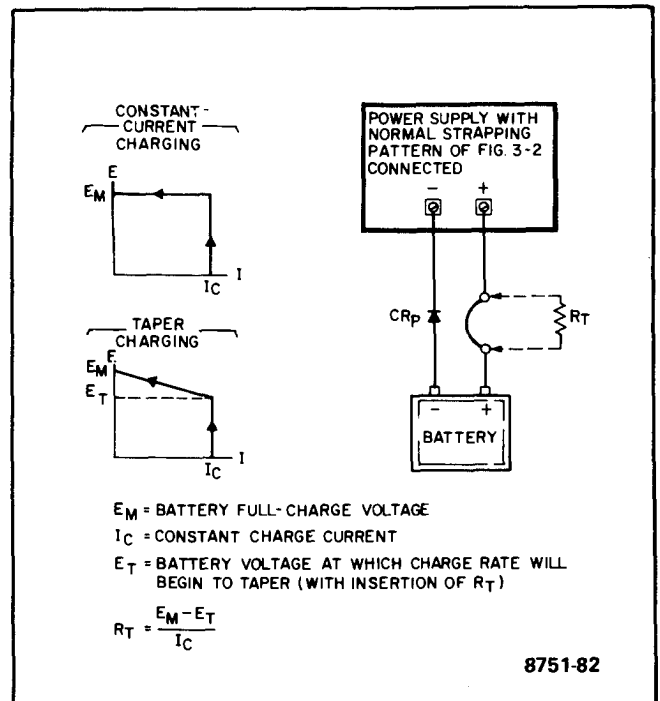

Figure 3-16. Battery Charging
*Any time these supplies are used to charge a battery, be sure to install a protective diode CRp in series with the battery as shown in Figure 3-16 to prevent the battery from discharging into the supply if the supply is turned off. Extensive damage to the supply could result if this diode were omitted.*
- b. Connect a short circuit across the output terminals and rotate the VOLTAGE control fully clockwise (CW).
- e. Adjust the VOLTAGE control for an output voltage 0.7 volts greater than the desired full charge voltage. (The added 0.7 volts compensates for the drop across CRp.) The supply may then be connected to the battery terminals, positive to positive and negative to negative as shown in Figure 3-16 (omit RT).
**3-90 Taper Charge.** When charging lead-acid cells, many manufacturers recommend that the charging current be reduced as the charge nears completion. This can be accomplished by inserting a small resistance (RT) in series with one of the load leads from the supply to the battery. (See Figure 3-16.) This resistor alters the normally rectangular charging plot in such a manner as to provide a taper charge for the last portion of the charge. The proper value for this resistor is the difference between the full charge voltage and the voltage at which the tapering is to start, divided by the initial charging current. Set the initial charging rate and full charge voltage as instructed in paragraph 3-89.